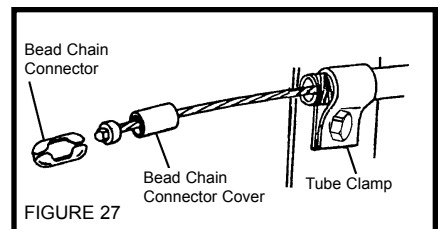

FIGURE 27
- b. The **TUBE CLAMP** may be used to anchor the **CABLE ASSEMBLY** to an existing throttle cable bracket. **Figure 27** In some cases you can drill a **3/16"** hole in the bracket.